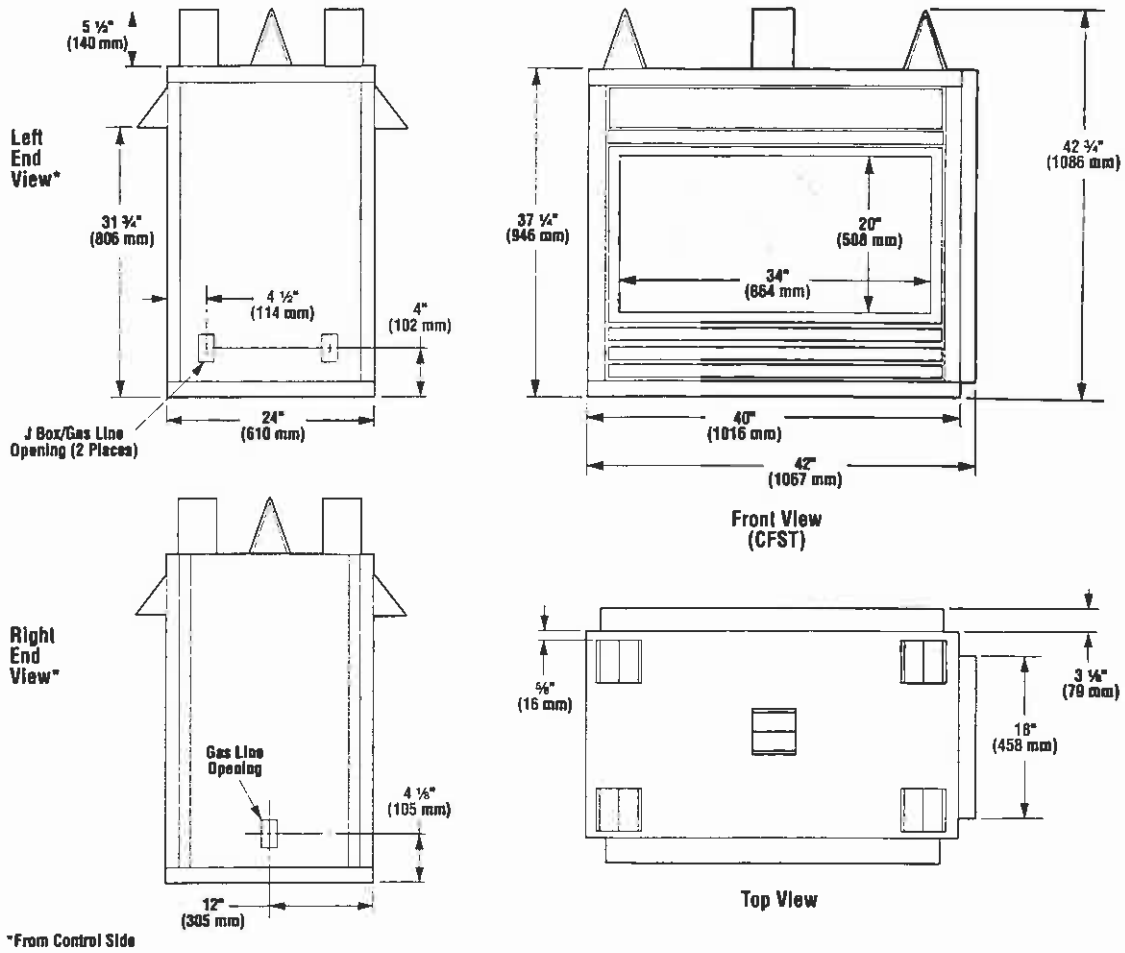

Figure 3
*Note: Appliance Dimensional Specifications are shown in Figure 3.*